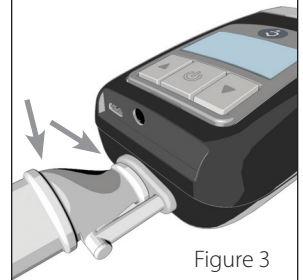

Figure 3
3. Ensure all connections are tight to avoid air leaks. (Figure 3)